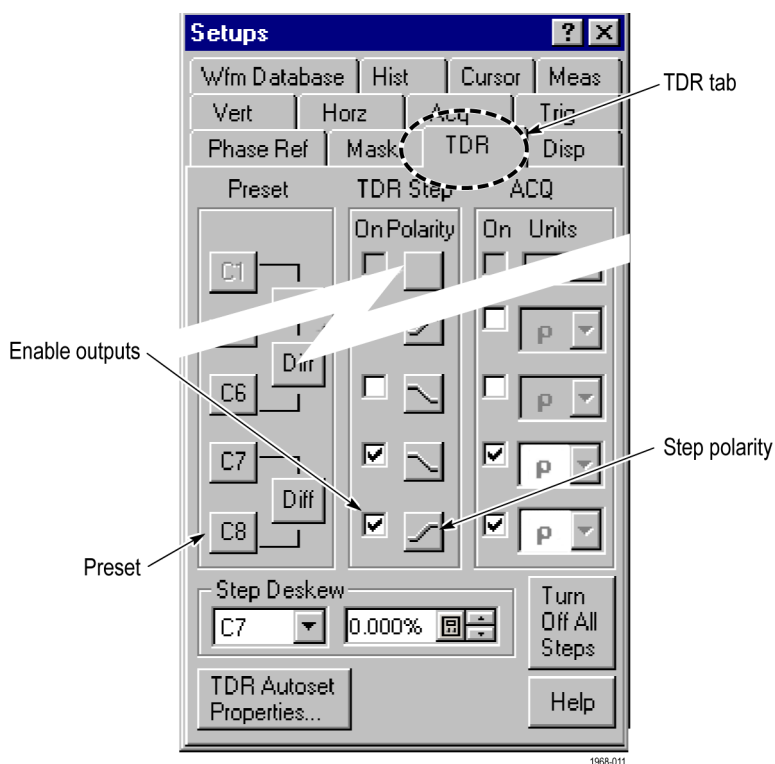

Figure 30: Setting the TDR parameters
3. Set the Channel 7/8 sampling head to TDR mode: Press the SETUP DIALOGS button and select the TDR tab. (See Figure 30.)